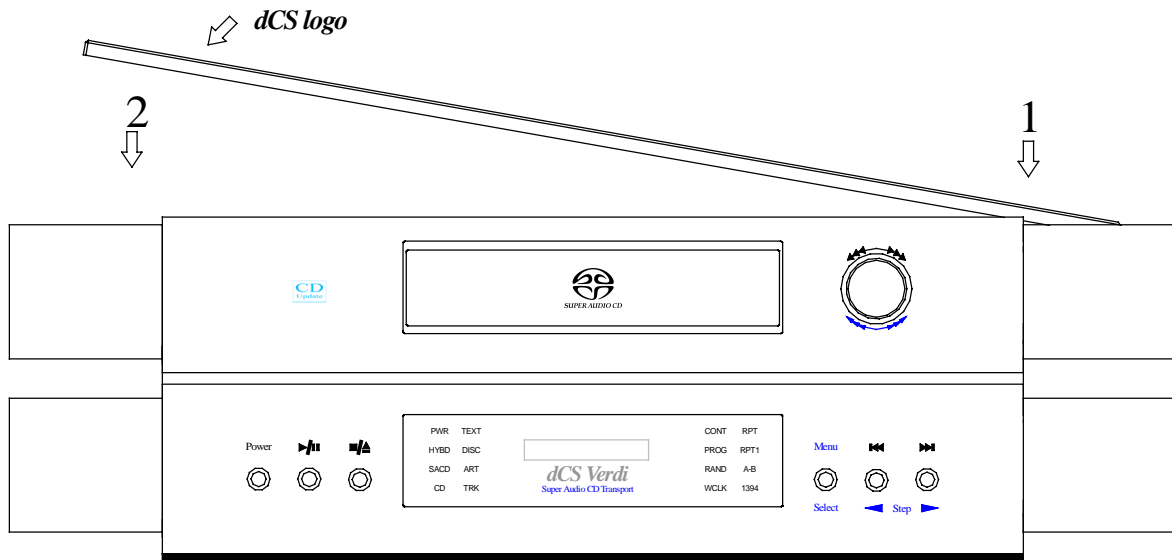

Figure 9 – Locating the Top Glass Plate
**do this:** Find the *dCS* logo on the top face of the glass. Fit the glass with the logo in the front left corner of the unit as shown in **Figure 9**.
**do this:** Carefully locate the right hand edge of the glass in the well in the top of the unit (step 1 in **Figure 9**).
**do this:** Lower the glass down on the left hand side until it can be safely dropped into place (step 2 in **Figure 9**). Centralise the glass plate.